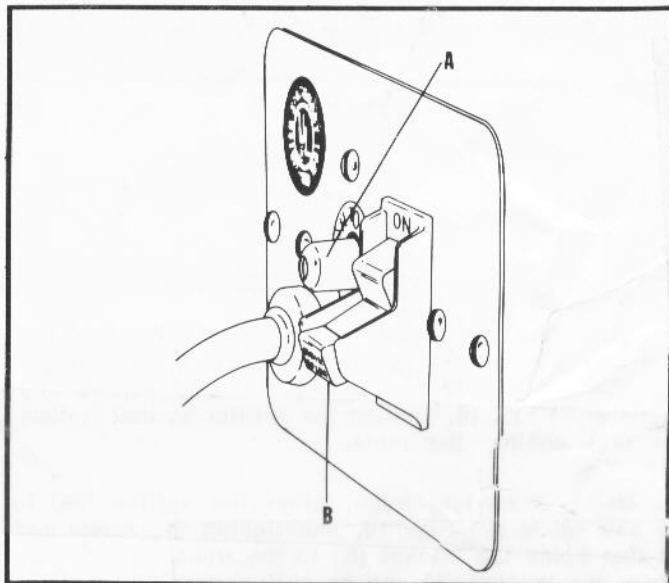

Fig. 19
The switch (B) is located on the left side panel of the saw cabinet, as shown in Fig. 19. To turn the saw "ON" move the switch to the up position. To turn the saw "OFF" move the switch to the down position. WE SUGGEST THAT WHEN THE SAW IS NOT IN USE, THE SWITCH BE LOCKED IN THE "OFF" POSITION. This can be done by grasping the switch lever and pulling it out of the switch. With the switch lever removed the switch will not operate. However, should the switch lever be removed while the saw is running, it can be turned "OFF" once, but can not be restarted without inserting the switch lever.
Your saw is equipped with a reset overload relay button (A) Fig. 19. If the motor shuts off or fails to start due to overloading (cutting stock too fast, using a dull blade, using the saw beyond its capacity, etc.) or low voltage turn the switch to the "off" position, let the motor cool three to five minutes and push the reset button (A), which will reset the overload device. The motor can then be turned on again in the usual manner.